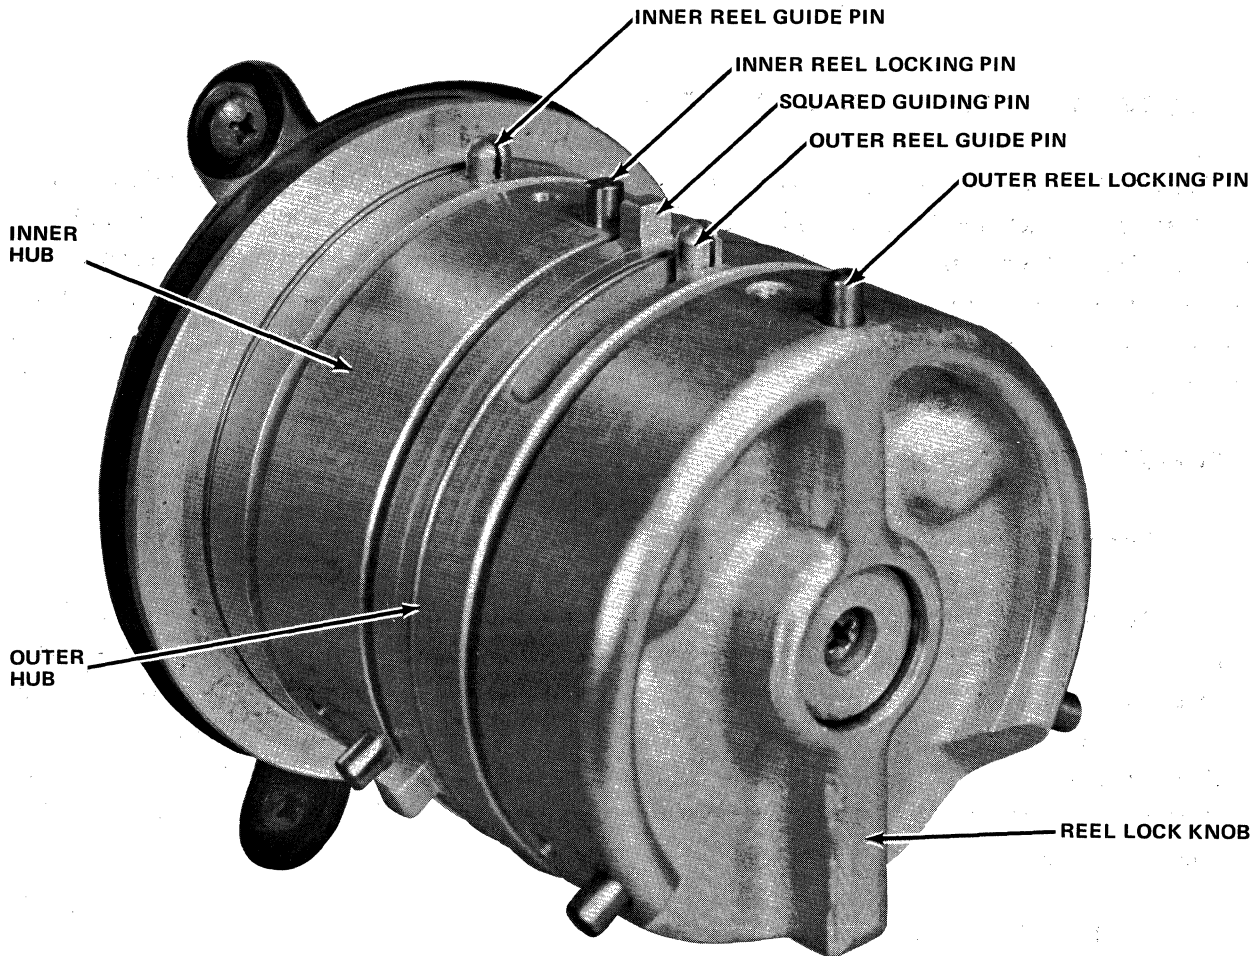

Figure 3-1. Dual Reel Hub (With Guide Pins Aligned)
Step 2. Turn the reel lock knob so as to align all the guide pins on the dual reel hub. This action will lock the two hubs together (See Figure 3-1).